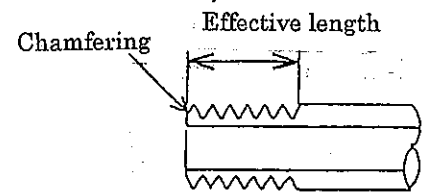

Fig. 3
- (2) Keep the length of the threads in the piping to an effective thread length. Also, the end of the threaded part should be finished by chamfering to a half pitch. (Fig. 3)